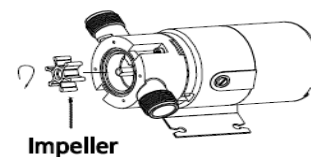

Figure 6 – Install Impeller
- To ease installation of the impeller, lightly grease the inside of the pump housing with a lithium-based grease (See Figure 6). Other types of grease could damage the impeller.